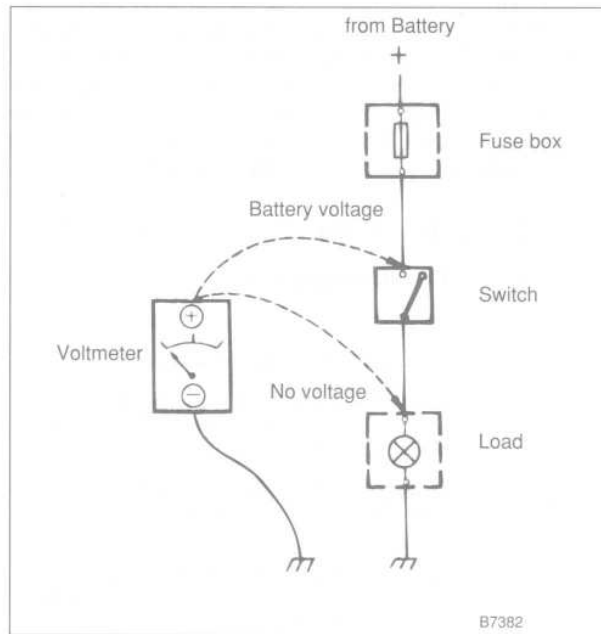

Fig. 1. Voltmeter being used to check for voltage.
2. Connect the voltmeter positive lead to the point in the circuit you wish to measure. See Fig. 1. If a reading is obtained, current is flowing through the circuit.